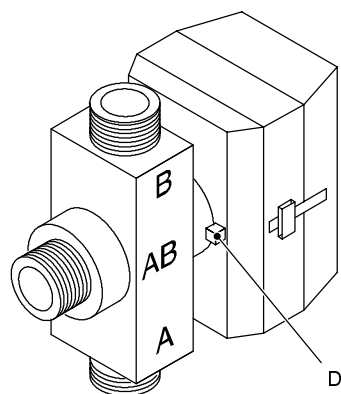

fig. 30
- 2 Press the push-button *D* placed in the rear side of the motor (fig. 30) and rotate the motor group anti-clockwise, releasing it from the hydraulic group.
- Warning:** the valve body should fitted with the marking "A" pointing downwards (fig. 30).